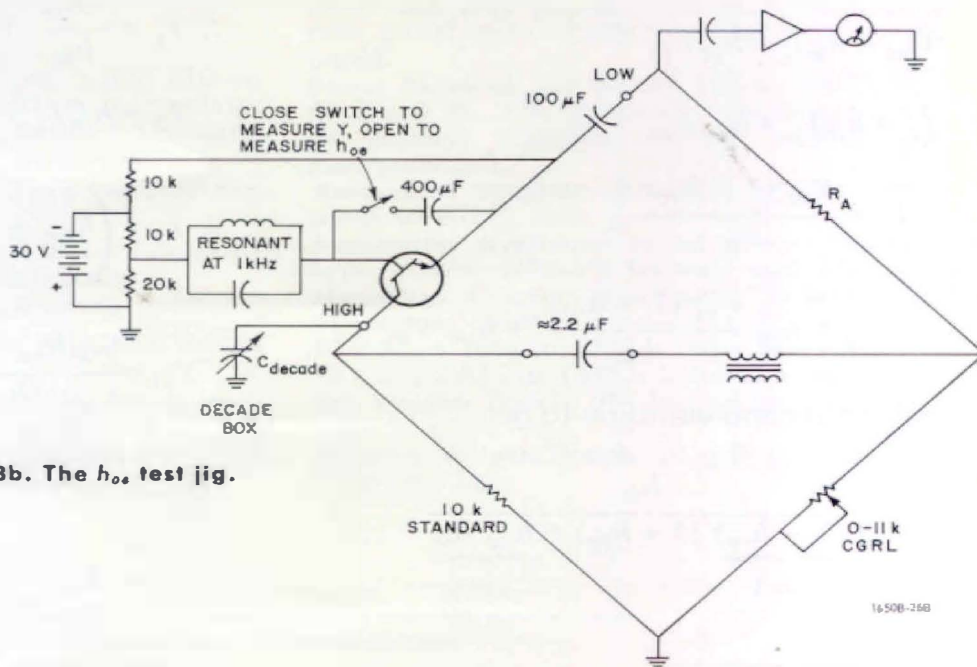

Figure 3b. The  $h_{oe}$  test jig.
c. Use the  $G_{ac}$  bridge and the  $h_{oe}$  test jig (Figure 3b) and turn up the oscilla-